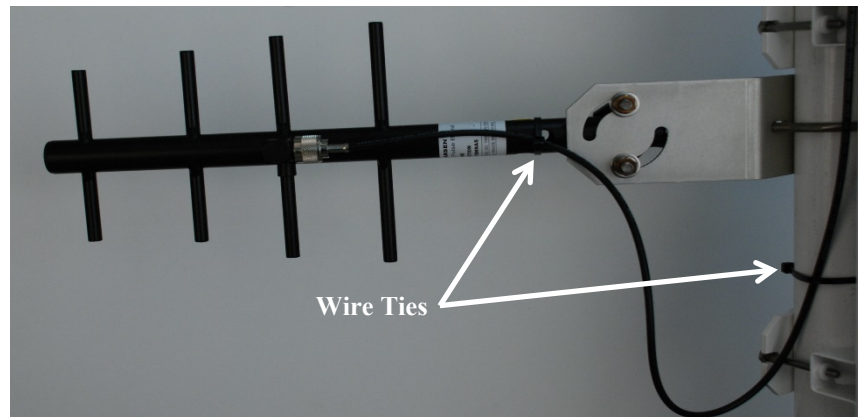

FIGURE 2-35. Wire Tie Antenna Cable to Yagi Antenna and to Pole
- vi. Take one black wire tie and strap the antenna cable to the antenna as shown in FIGURE 2-35. Leave a little slack on the cable between the wire tie and the antenna connector so as not to stress the connector/cable connection.
- vii. Make sure there is a loop of antenna cable directly under the Yagi antenna. This will act as a drip loop and allow moisture to run off the antenna and cable. See FIGURE 2-35.